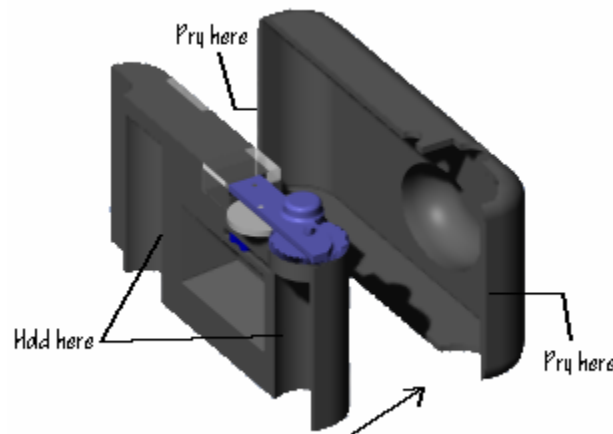

Figure 3
- d. Now, remove the front cover. Hold the camera near the center of the film cavities and gently pry the front cover off at the sides, as shown in Figure 3.